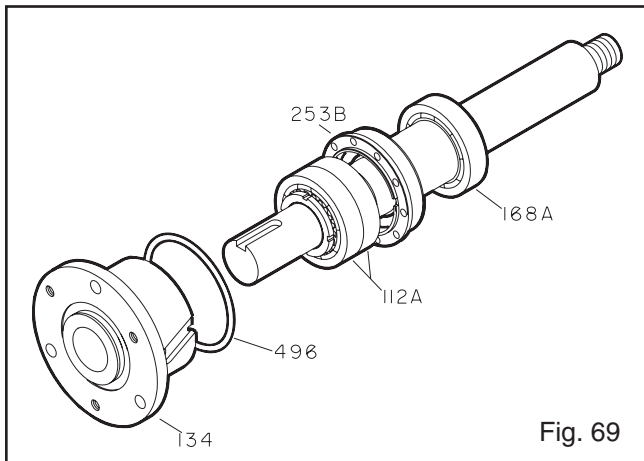

Fig. 69
5. Remove bearing housing (134) from shaft (122) with bearings (112A, 168A) (Fig. 69).